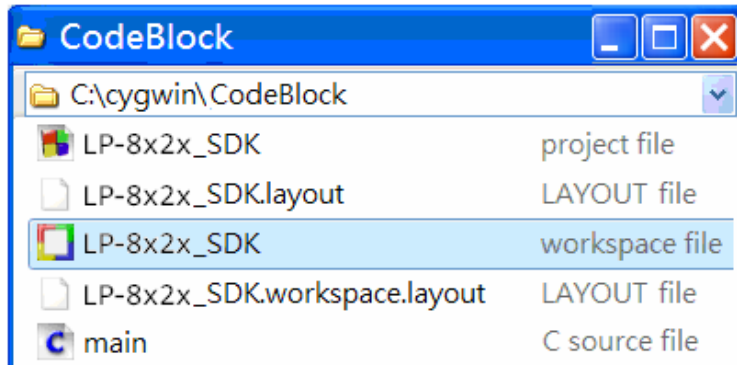

Fig. 2-19
- ❑ Open the **C:\cygwin\CodeBlock** folder, and double click the "LP-8x21_SDK" as below (refer to Fig. 2-19):